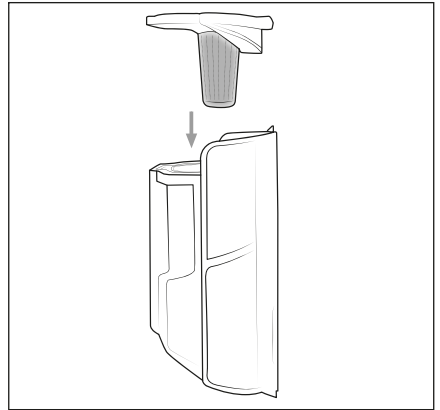

Fig. 19
6) Insert the stainless steel filter **6** into the dust container **7** and push it all the way down until it sits firmly in the dust container **7** (see Fig. 19).